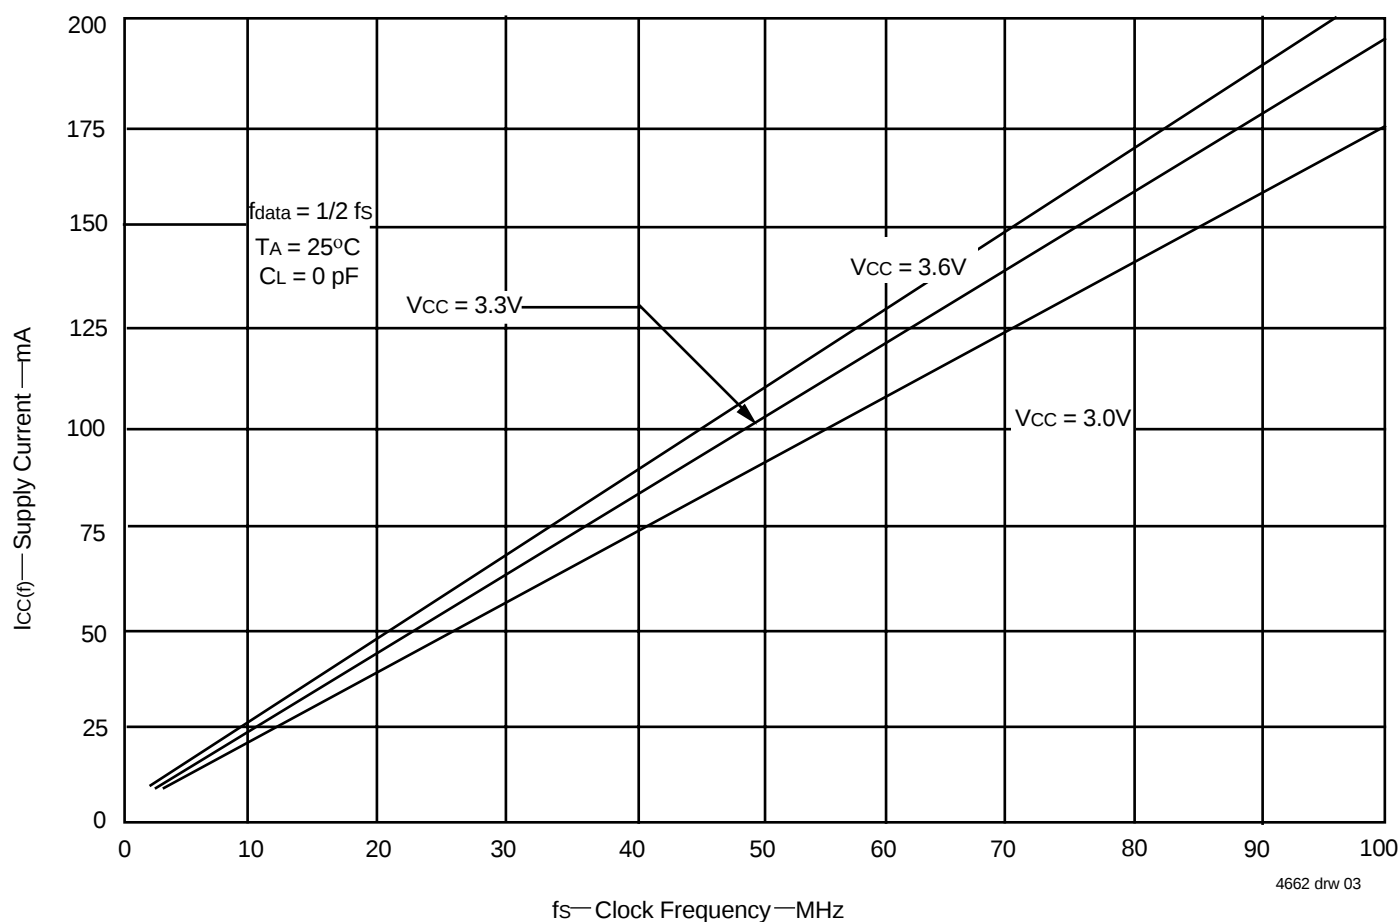

Figure 1. Typical Characteristics: Supply Current (I_{CC}) vs. Clock Frequency (f_s)
- For additional I_{CC} information, see Figure 1, *Typical Characteristics: Supply Current (I_{CC}) vs. Clock Frequency (f_s)*.
The $I_{CC(f)}$ current for the graph in Figure 1 was taken while simultaneously reading and writing a FIFO on the IDT72V3623/72V3633/72V3643 with CLKA and CLKB set to f_s . All data inputs and data outputs change state during each clock cycle to consume the highest supply current. Data outputs were disconnected to normalize the graph to a zero capacitance load. Once the capacitance load per data-output channel and the number of IDT72V3623/72V3633/72V3643 inputs driven by TTL HIGH levels are known, the power dissipation can be calculated with the equation below.
With $I_{CC(f)}$ taken from Figure 1, the maximum power dissipation (PT) of these FIFOs may be calculated by: